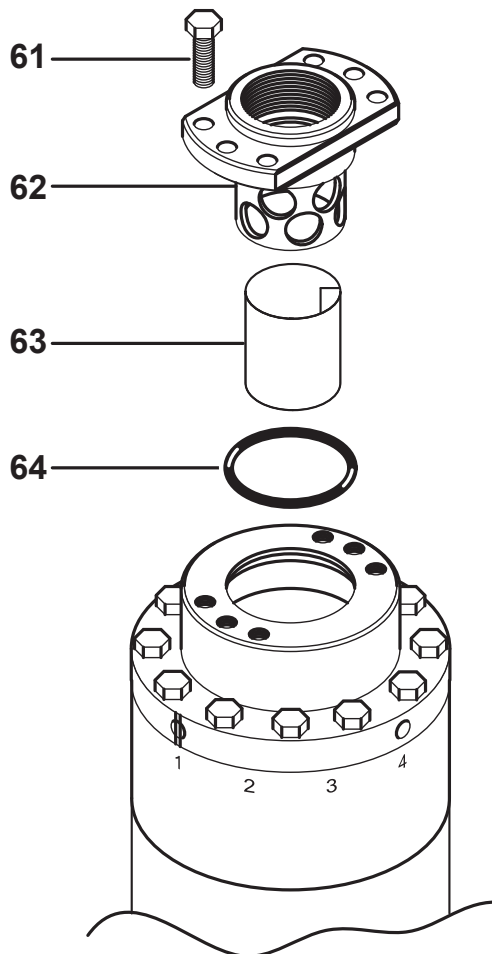

Fig. 9.0
9.1.1) Unscrew and remove the screws pos. 61, disassemble the filter holder flange pos.62 and remove the cartridge pos.63 (Fig.9.0).